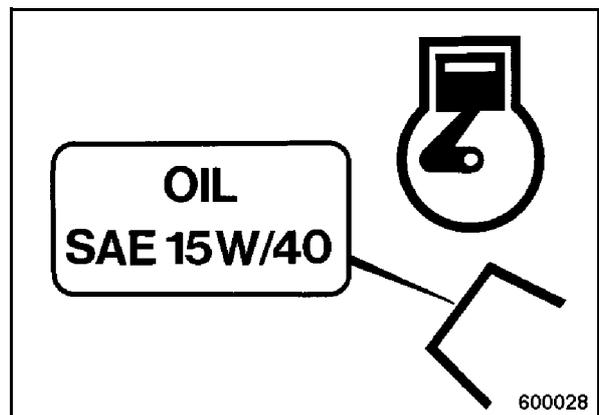

Fig. 39
- Fill in new engine oil (Fig. 39).